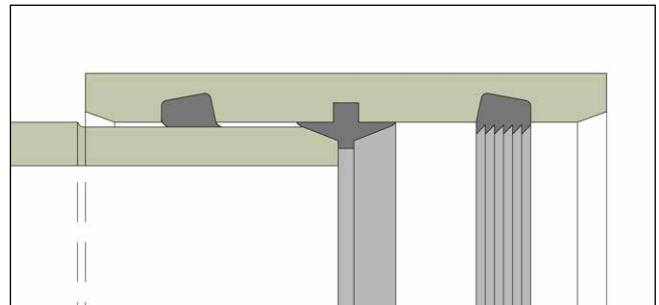

Fig. 23: FPC coupling
5.1.2. PRESSURE COUPLING / FPC, REKA (FIG. 23)